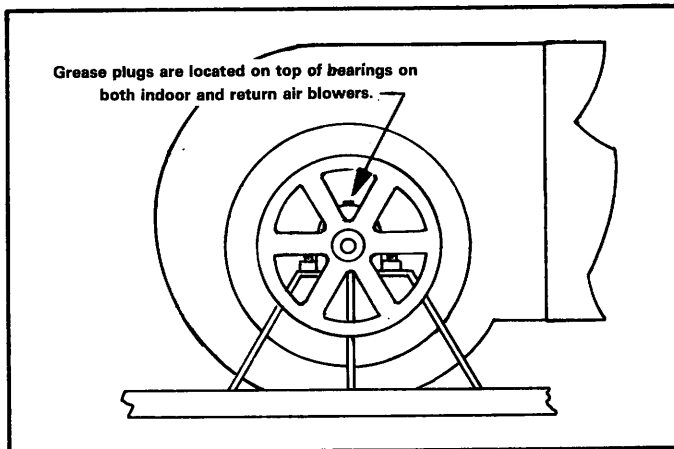

FIGURE 44
*Indoor and Return Air Blower Bearings* - Bearings are prelubricated. For extended bearing life, relubricate at least once every two years with a lithium base grease, such as Alvania 3 (Shell Oil), Chevron BRB2 (Standard Oil) or Regal AFB2 (Texas Oil). Use hand grease gun for relubrication. Add only enough grease to purge through the bearings so that a bead of grease appears at the seal lip contacts. Refer to Figure 44.